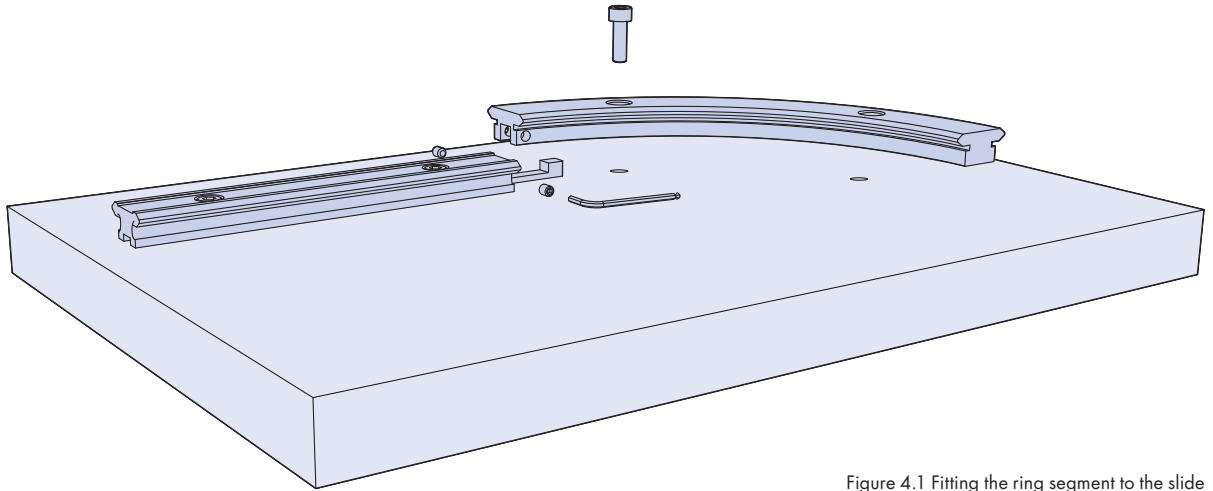

Figure 4.1 Fitting the ring segment to the slide
4.1 Once the slides are secured the segments can be fitted. The adjustment key should be inserted into the bottom recess on the slide, the ring segment can then be placed in position and loosely secured (figure 4.1). The slot on the ring segment is bigger to allow for adjustment of the segment with the jacking screws.